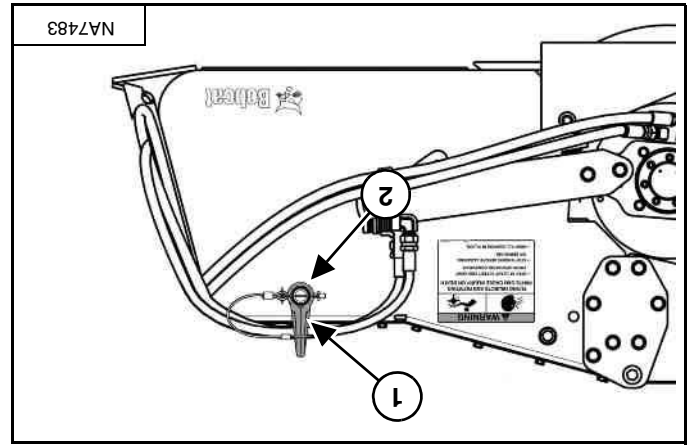

Figure 48
Remove the removable hose guide (item 1) from the storage post (item 2) [Figure 48] (if equipped).